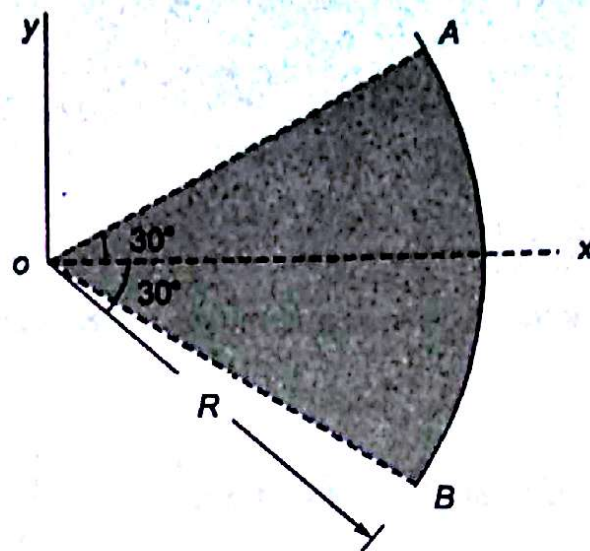

Fig. 5.21
5.8 What is \bar{x} of a sector of a circular area of radius R subtending an angle of 60° at the centre (Fig. 5.21)?